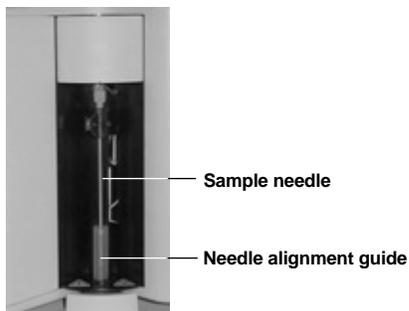

Fig. 17. Sample needle and needle guide.
14. Check the right-left alignment of the needle by selecting *Up/Down* and checking to ensure that the needle moves up and down freely without rubbing on the sides of the needle alignment guide (Figure 17).